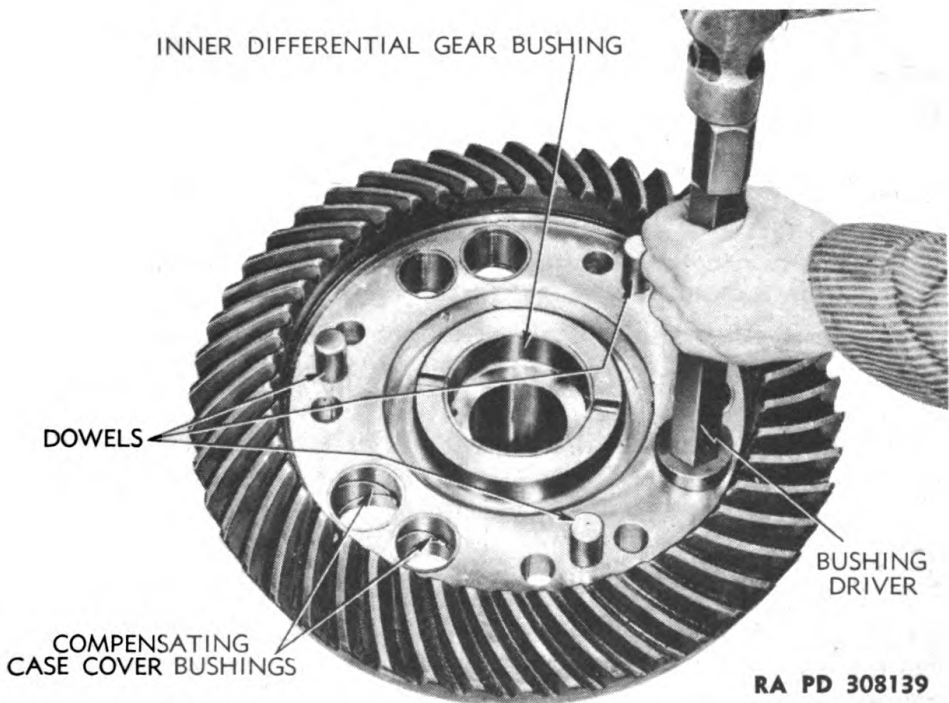

Figure 39 — Removing Compensating Case Cover Bushings
d. Remove Bushings From Compensating Case Covers (fig. 39). Using care not to injure covers, tap small chisel between inner differential gear bushings and covers to spring bushings together and remove bushings. Using bushing drivers or arbor press, drive or press bushings from covers. **NOTE: Do not remove these bushings**